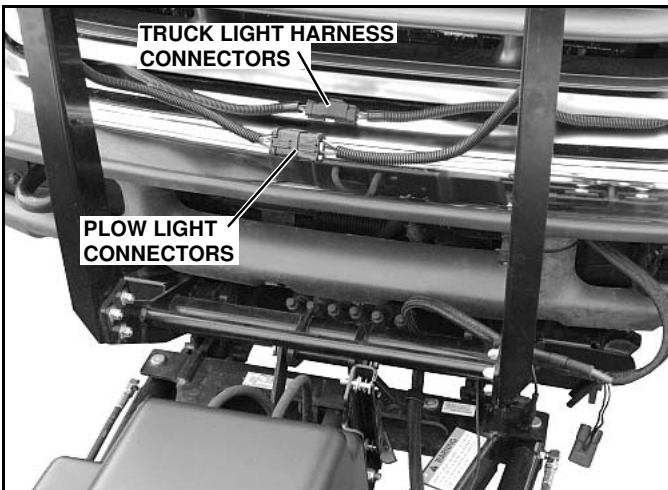

Figure 1-29
7. Unplug light harness connectors on truck, and disconnect plow light connectors, which had been plugged together for corrosion protection during storage. (See Figure 1-29)